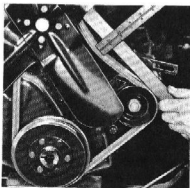

Fig. 43—Fan Belt Adjustment
The fan belt tension should be checked occasionally and, if necessary, adjusted to provide $\frac{3}{4}$ " up or down movement from normal position at a point midway between fan and generator pulleys (fig. 43).
4. Pull the generator away from engine to tighten the belt. Tighten the brace to generator clamp bolt and check for $\frac{3}{4}$ " total up or down movement of belt at a point midway between water pump and generator pulleys (fig. 43). If necessary loosen clamp bolt and move generator slightly to obtain desired belt tension.